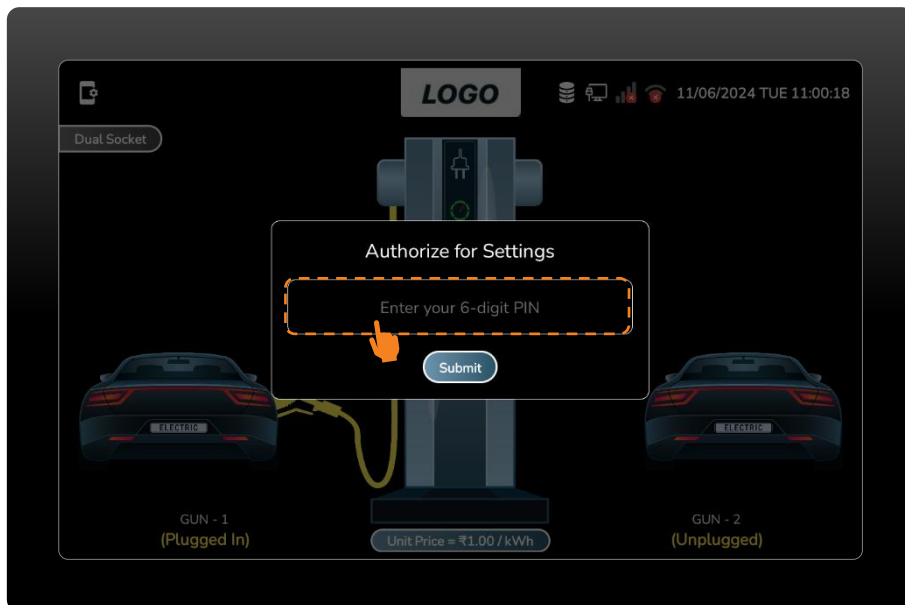

Figure 4 Authorise to Access Setting Screen.
- To access the settings screen, the user must enter an authentic 6-digit pin. (Figure 4)